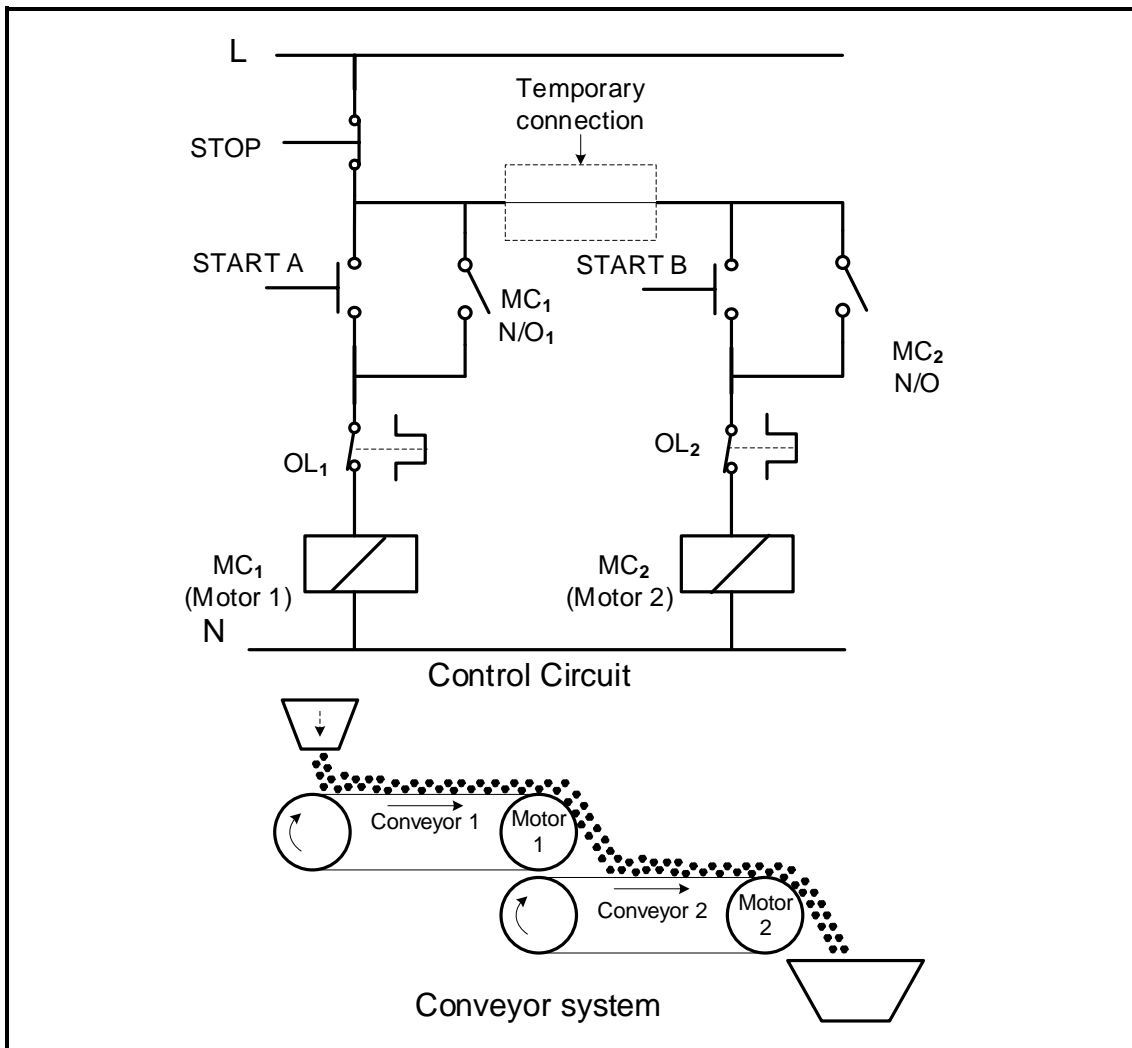

FIGURE 6.5: MOTOR STARTER CONTROL CIRCUIT AND CONVEYOR SYSTEM
6.5 Refer to FIGURE 6.5 below and answer the questions that follow.
6.5.1 Identify the motor starter control circuit in FIGURE 6.5 above. (1)
- 6.5.4 Explain the disadvantage of connecting the overloads as shown in the control circuit in FIGURE 6.5 when MC₁ and MC₂ are controlling the two motors on the conveyor belt system. (3)